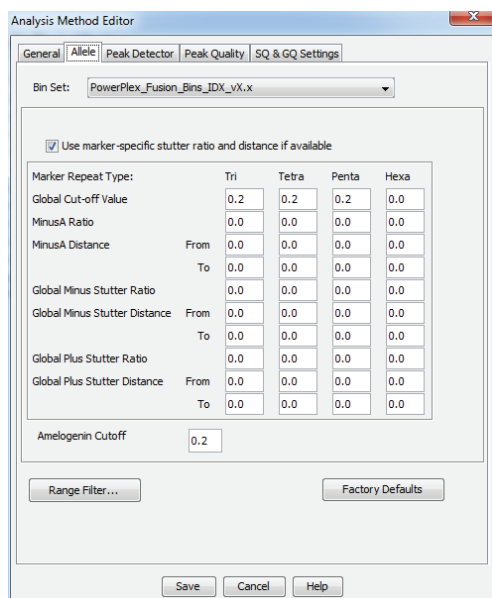

Figure 29. The GeneMapper® ID-X 'Allele' tab with settings for using a 20% peak filter.
6. Select the 'Allele' tab (Figure 29).
8. Ensure that the 'Use marker-specific stutter ratio and distance if available' box is checked. Doing this will assign locus-specific stutter files and distances from the imported stutter file. Ensure that the appropriate global filter is applied to this analysis method. For example, for a 20% filter, enter "0.20" for the Global Cut-off Value for Tri, Tetra and Penta repeats (Figure 29).